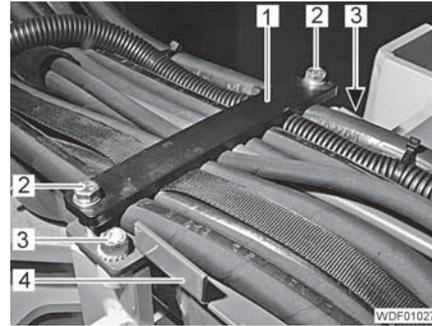

Fig. 286 Line attachment
- Unscrew the 2 screws (Fig. 286,2) and remove the holder (Fig. 286,1).
- Unscrew the 2 screws (Fig. 286,3) and remove the holder (Fig. 286,4).